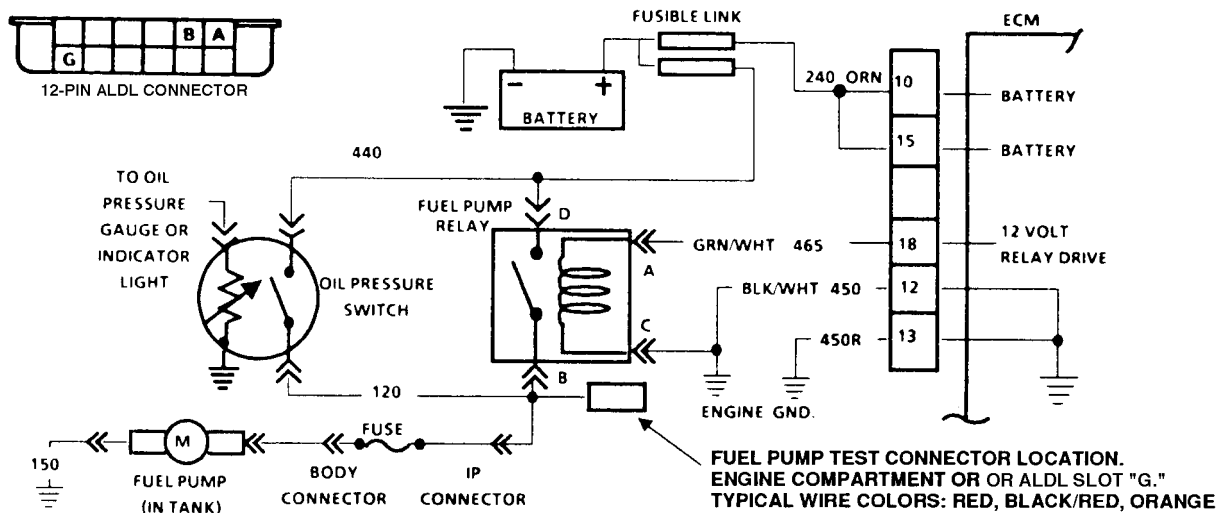

Figure G083-5 Typical fuel pump circuit
- a. Turn the ignition on to pressurize the system, you may have to cycle the ignition two or three times to get full system pressure. Vehicles with a fuel pump test terminal provide an alternative. Locate the fuel pump test connector in the engine compartment, or the 12-pin ALDL connector. Apply battery voltage to terminal G (Figure G083-5) for about 5 or 6 seconds to pressurize the system. Compare results to specifications.
If using an ammeter or the Amp Amplifier, remove the fuel pump fuse and connect the leads across the fuse terminals on most vehicles. Some vehicles have an underhood fuel pump test connector (Figure G083-5). On these, measure fuel pump current by connecting the ammeter or Amp Amplifier in series between the test connector and the positive battery terminal. Attach the inductive probe over the Amp Amplifier. If only using an inductive probe, attach its end around the positive feed wire to the fuel pump.
When the ignition is turned on, the ECM for GM fuel injection systems energizes the fuel pump for about 2 seconds to prime the system. If the ECM does not get a tach (cranking) signal within the 2 seconds, it de-energizes the pump relay (Figure G083-5). When cycling the ignition switch to pressurize the system for testing, leave the ignition off for 15 seconds before turning it on again; or the ECM does not reenergize the pump relay.
Most GM fuel injection systems have an oil pressure switch in parallel with the fuel pump relay (Figure G083-5 on page G179). The oil pressure switch provides an alternate power source for the pump if the relay opens when the engine is running. If this switch sticks closed, however, the pump runs continuously, even with the ignition off, and quickly discharges the battery.